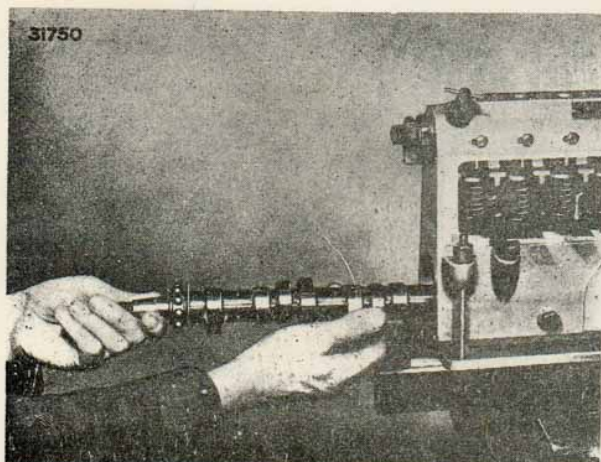

FIG. 22. REMOVING CAMSHAFT
7. Remove the bearing end plate and withdraw the camshaft (Fig.22 ). The camshaft has a chisel mark at the driving end to ensure that it is replaced correctly.